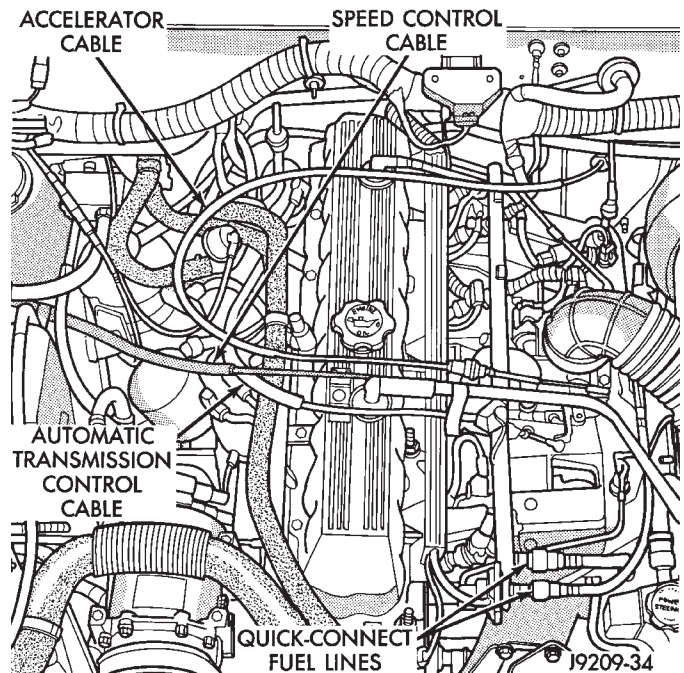

Fig. 15 Accelerator Cable, Speed Control Cable, Automatic Transmission Control Cable & Quick-Connect Fuel Lines
- (14) Disconnect the throttle linkages (Fig. 15).
- (15) Disconnect the speed control cable (if equipped)—(Fig. 15).
- (16) Disconnect the line pressure cable (if equipped with automatic transmission).
- (17) Disconnect injection system wire harness connector at the dash panel.
- (18) Disconnect the distributor electrical connection and the oil pressure switch connector.
- (19) Perform the Fuel System Pressure Release procedure (refer to Group 14, Fuel System).
- (20) Disconnect the quick-connect fuel lines at the fuel rail and return line by squeezing the two retaining tabs against the fuel tube (Fig. 15). Pull the fuel tube and retainer from the quick-connect fitting (refer to Group 14, Fuel System for the proper procedure).